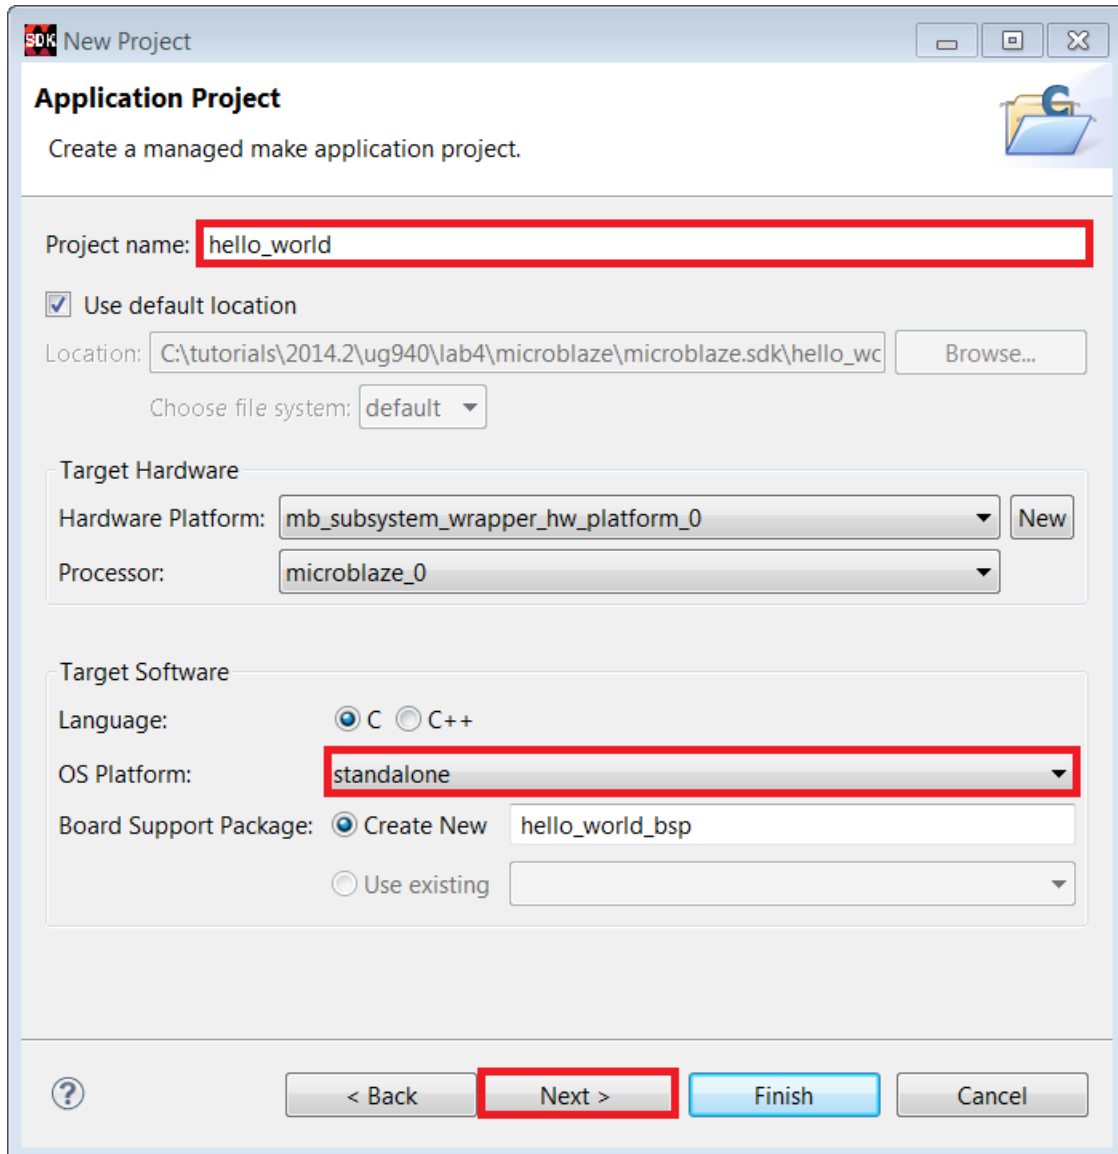

Figure 126: New Project: Application Project Wizard
4. Type a name (**hello_world**) for your project and choose **standalone** as the OS platform (**FIGURE 126**).